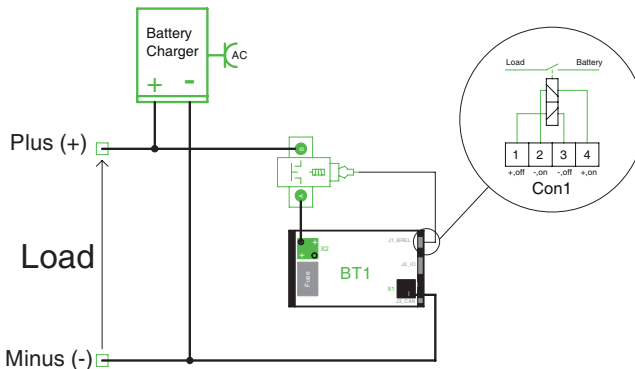

Figure 3. Connect a latching relay as Battery Disconnect device
1. When using a latching relay, connect it to Con 1 (I/O Connection 4) as displayed in Figure 3. The internal driver controls both high and low side.